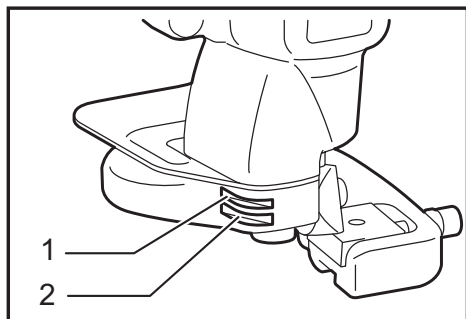

Fig.2
- **Fig.2:** 1. Gauge for stainless: 2.5 mm (3/32")